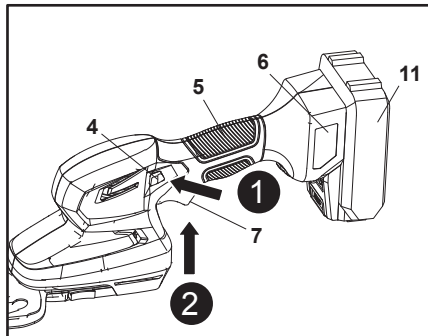

Fig. 7
1. Ensure the battery pack (11) is assembled on the battery docking port (6).
4. Hold the product firmly by the hand grip (5) with one hand.
5. Press the lock-off button (4) from either side and hold it in position, then squeeze the on/off switch (7) to switch the product on (Fig. 7, steps 1, 2).
6. Release the lock-off button (4) afterward.
7. Release the on/off switch (7) to switch the product off.